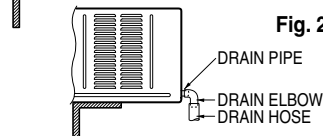

Fig. 2
3. Or connect a pipe elbow of  $\frac{9}{16}$ " inside diameter to the drain pipe, then connect a drain hose of  $\frac{9}{16}$ " inside diameter to the pipe elbow as shown in Fig. 2.